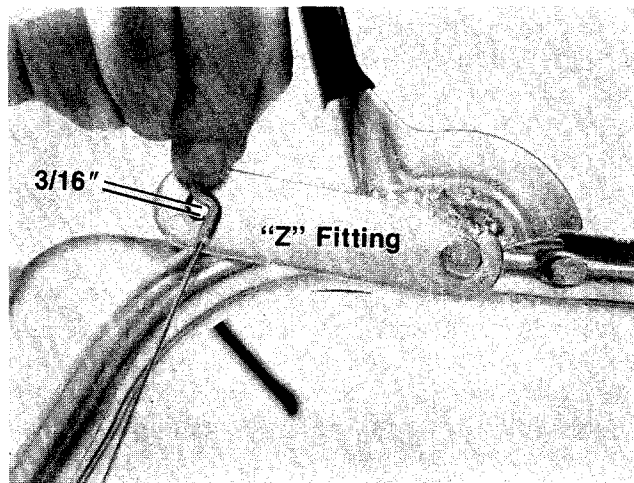

FIGURE 5.
3. Place the clutch grip on the left handle in the raised position. Hold the "Z" end of the cable against the clutch grip as shown in figure 5. Adjust the lower hex nut (underneath the cable bracket) so that the middle of the "Z" fitting is  $3/16$ " above the bottom of the hole on the clutch grip as shown in figure 5.